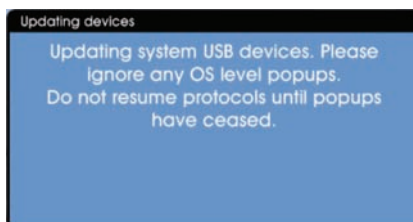

Figure 147: "Updating devices" dialog box
8. The "Updating devices" dialog box will now appear (see Figure 147).